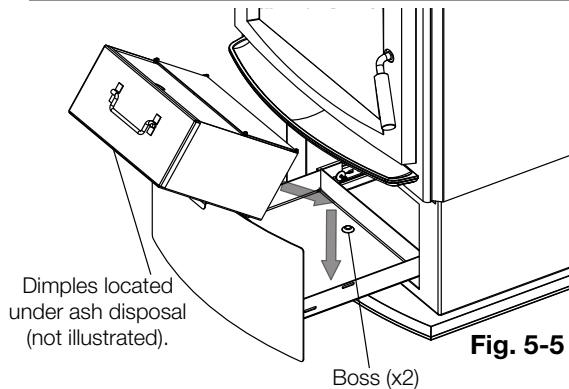

Fig. 5-5
4. Place the ash disposal housing into the ash disposal. Ensure the dimples fit into the bosses (**Fig. 5-5**). Close the ash disposal.